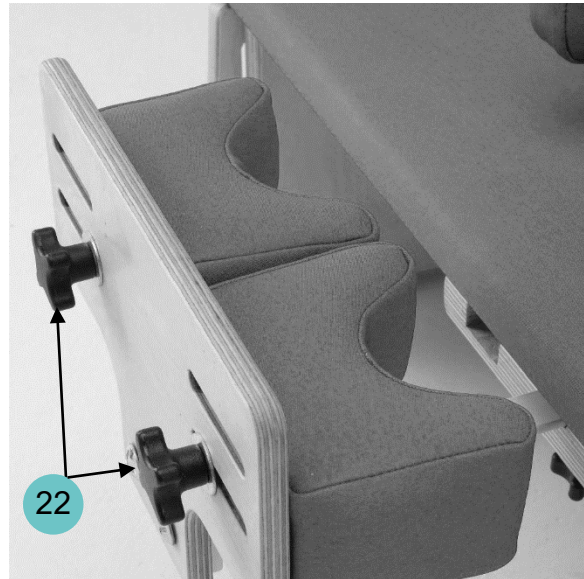

Figure 19
- To adjust the width of the knee blocks, loosen the handwheels (Ref. 22 of Figure 19).